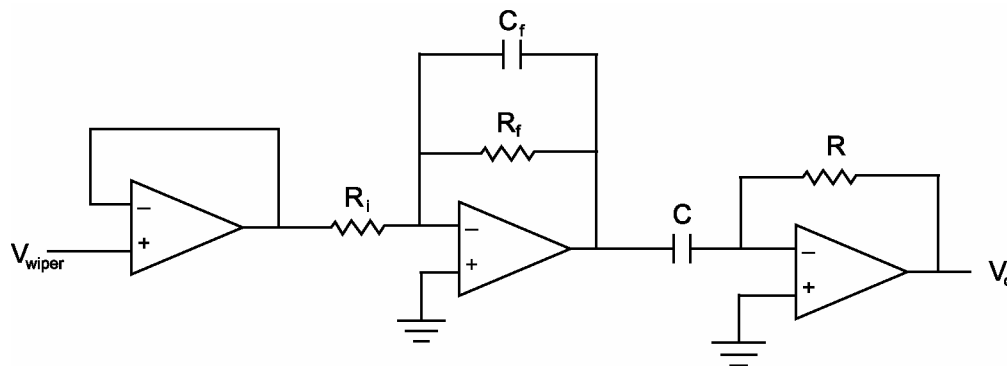
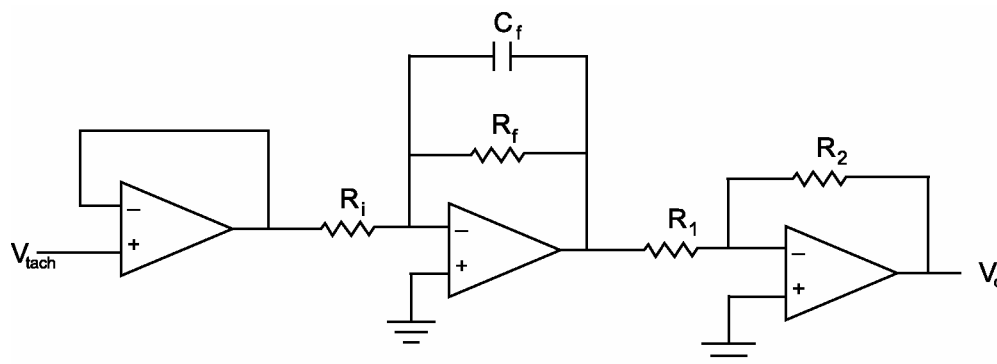

Figure 1: Buffer amplifier filter differentiator circuit.
Figure 2: Buffer amplifier filter inverter circuit.
where  $V_{in}$  is the input voltage in volts,  $\theta$  is the angular position of the wiper in degrees, and  $\theta_{dz}$  is the angle of the dead zone in degrees. For Equation (1) to be true, we must prevent current from flowing through the wiper (i.e. the input impedance of the circuit the potentiometer is connected to must be very large). One effective way of ensuring that no current is drawn from the wiper is to use an op-amp as a buffer (see the first op-amp in the circuit of Figure 1). As you may recall, one of the properties of an op-amp is that its inputs have high input impedances. Therefore, the buffer circuit uses the op-amp to provide the voltage and current necessary to drive the remainder of the circuit while it matches the voltage of the wiper connected to its non-inverting input. A buffer is not required if the data acquisition card of the computer or a digital multimeter is used to measure the wiper voltage since these devices are designed to have very high input impedances.
The resistive materials used in most potentiometers are wire windings. As the wiper moves across these windings high-frequency electrical noise is produced. Therefore, it is especially important to filter the signal from the wiper using a low pass filter (see second op-amp in Figure 1) if the circuit accepting the signal is sensitive to high-frequency noise. However, apart from the noise produced during motion, a potentiometer is a very useful tool to measure angular position.
In addition to providing angular position, potentiometers can be used to measure angular velocity using an external op-amp circuit like the one shown in Figure 1. The first stage of the circuit buffers the output of the potentiometer so as not to draw current from the wiper of the potentiometer. The second stage is a low pass filter designed so that the high frequency noise generated by the motion of the wiper will not be transmitted to the third stage. The third stage is a differentiator circuit that differentiates the angular position given by the potentiometer and outputs angular velocity. If the signal from the potentiometer were sent to this last stage directly, without the low-pass filter, the high-frequency noise produced by the wiper motion would be amplified much more than the desired signal from the potentiometer and erratic velocity measurements would result.
Although the tachometer is a convenient way to measure angular velocity, it does have drawbacks. First of all, the voltage produced by the tachometer must be read by a device with a high input impedance so that the tachometer's output is not altered by the circuit the tachometer is connected to. In addition, the internal brushes of the tachometer create high-frequency noise as they run along the commutator ring. Finally, the voltage produced by the tachometer is very small at slow speeds and, therefore, usually needs an external amplifier circuit. In light of these facts, it is often wise to buffer, filter, and amplify the signal from a tachometer rotating at low speeds using a circuit like the one shown in Figure 2. Note that the last op-amp in this circuit rectifies the inverted signal from the filter.
In the following lab you will be required to design and build the circuits of Figure 1 and Figure 2 above. This pre-lab is designed to help you design the circuits in the least amount of time possible. To that end, solve the following problems on a separate piece of paper:
12. Design and build a circuit of the form depicted in Figure 1 above that will differentiate the potentiometer signal: resulting in an angular velocity measurement. Make sure that the low pass filter has a cutoff frequency that is at least twice the input frequency and that the overall gain of the circuit limits the output signal amplitude to less than five volts. Record the values of your circuit components below:
17. Design and build a circuit of the form depicted in Figure 2 above that will filter and amplify the signal from the tachometer. Again, make sure that the low pass filter has an appropriate cutoff frequency and the overall gain of the circuit limits the tachometer output amplitude to less than five volts. Record the component values of the circuit below: